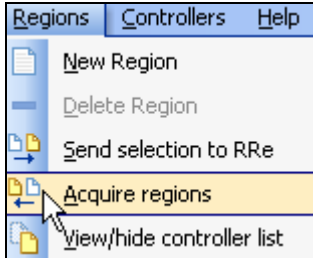

Figure 33.2.17
1. In the toolbar of the IR-Interface window select **Regions** and scroll down to **Acquire regions** and click on it (Figure 33.2.17).